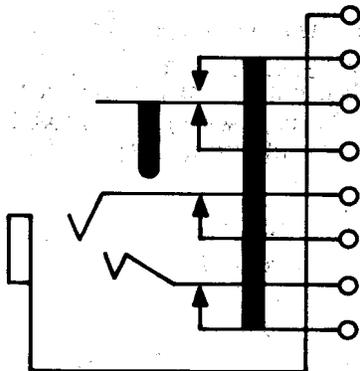

Fig. 3—280-Type Jack
**2.03 280A C, AM, and CM:** These single-mounted jacks (Fig. 3) are used with 150, 184, 213, 262, 310, 320, 331, 338, and 349 plugs. These jacks are heavily insulated and have solder-type terminals that are arranged to accommodate two 19B and S gauge wires. These jacks are intended to be mounted with the springs in a vertical plane. The mounting hardware is shipped loose. They are designed for use with a 310 or similar-type plug. The 280AM and CM jacks are equipped with mechanically wrapped terminals.